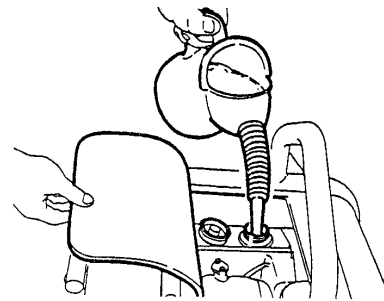

Figure 7. Refueling
2. Visually inspect to see if fuel level is low. If fuel is low, replenish with unleaded gasoline (Figure 7).